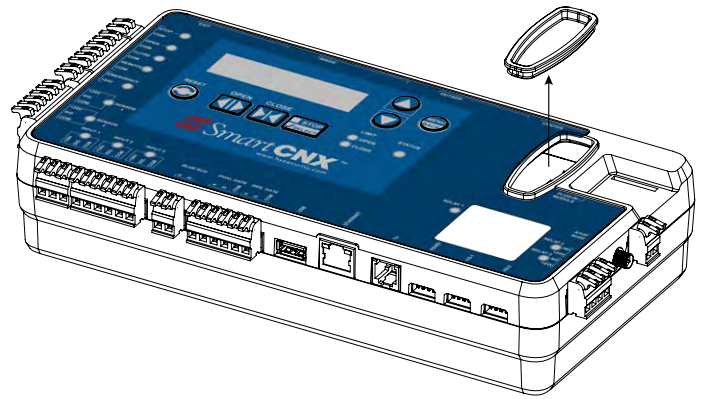

Figure 52. Remove OXI Receiver Cover
2. Remove the rubber plug or OXI receiver from OXI receiver slot (Figure 52).